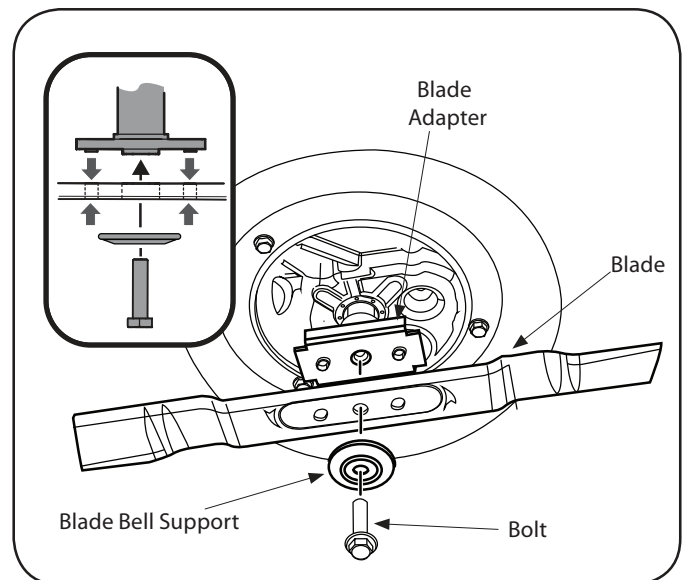

Figure 13
2. Remove the bolt and the blade bell support which hold the blade and the blade adapter to the engine crankshaft (Figure 13).
5. Lubricate the engine crankshaft and the inner surface of the blade adapter with light oil. Slide the blade adapter onto the engine crankshaft. Place the blade on the adapter such that the side of the blade marked "Bottom" (or with part number) faces the ground when the mower is in the operating position. Make sure that the blade is aligned and seated on the blade adapter flanges. See Figure 13 insert.